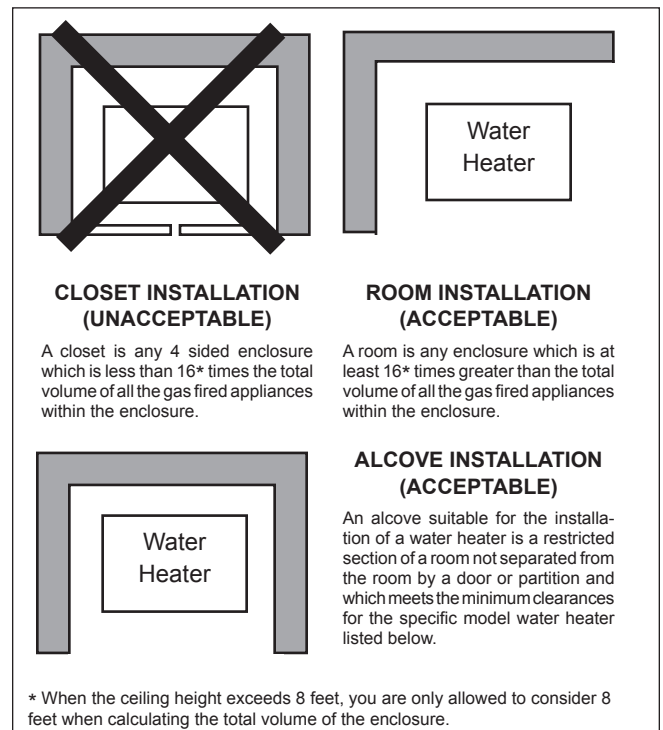

Figure 6. Alcove Installation.
1. Locate the water heater to provide adequate clearance for inspection and service on all sides (see Table 1). We recommend minimums of 24" from front (for proper access to and service of controls) and 18" at water connection end. For alcove installation (see Figure 6).